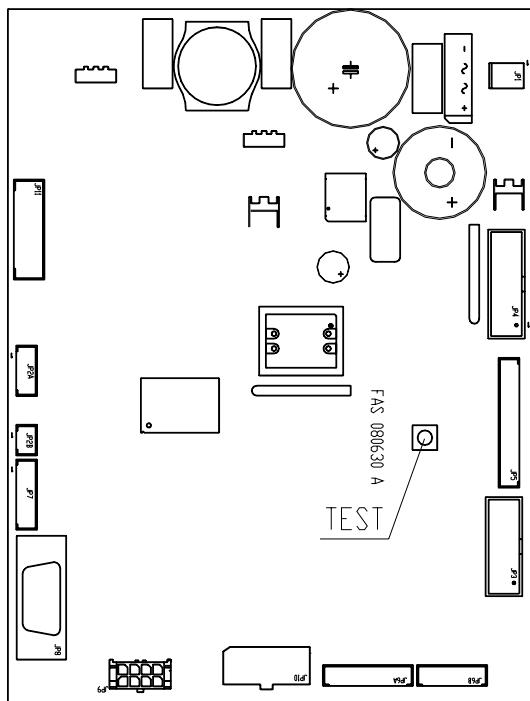

FIG. 3
- If the message "MEMORY CLEARED" appears on the display, press the button on the main board inside the box of the coin dispensing mechanism (see fig. 3) to initialize the memory. The message "DOOR OPEN, MACHINE IN MAINTENANCE MODE" appears on the display. The machine automatically starts a self-test. If no errors are identified, the column moves into the starting position and the machine is ready for use.
When the machine is switched on, if there are no data stored in the memory or if the data stored are corrupted, the message "**INIT**" followed by "**memory cleared**" appears on the display. The message "**INIT**" continues to be displayed until the main board and the power board start to communicate. The same condition occurs when the "**erase memory**" command is performed or when the memory has failed. By pressing the pushbutton **TEST** Fig. 3 on the main board inside the coin mechanism compartment the memory is automatically restored with the predefined values described in the instructions section.